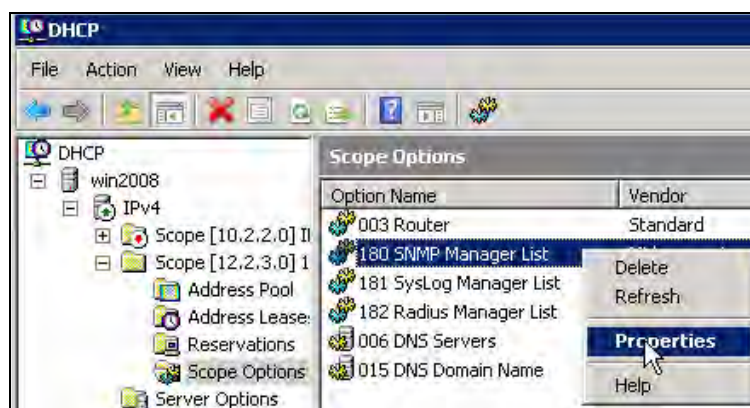

Figure 4-35: Setting SNMP Manager IP List
5. Repeat same process for SysLog IP list (up to two addresses) and Radius Servers IP list (Figure 4-35).